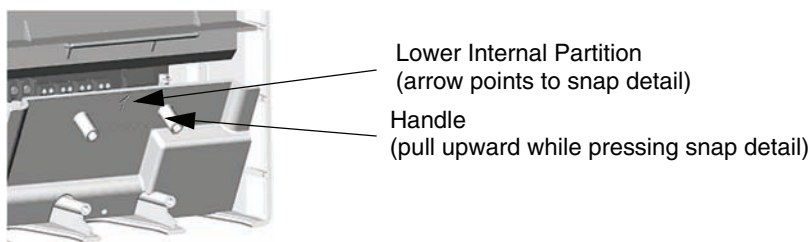

Figure 3-3 Access to Pressure Switch and Wiring
3. As shown in *Figure 3-3*, remove the lower internal partition by pressing on the snap detail of the upper partition and pulling outward on one of the two cylindrical handles. Tilt the partition outward and bring it forward to gain access to the pressure switch and wiring locations.